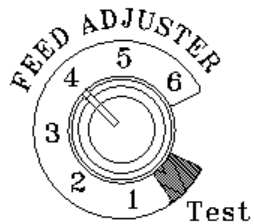

Fig. 19
4. Adjust Feed Rate. If this is your first fire or you are trying different pellets, set the feed adjuster to #4, Fig. 19. This is a conservative number and will probably need to be increased. After you know a feed rate setting that works well, use that setting. Remember, if your feed rate is too high you may waste fuel.